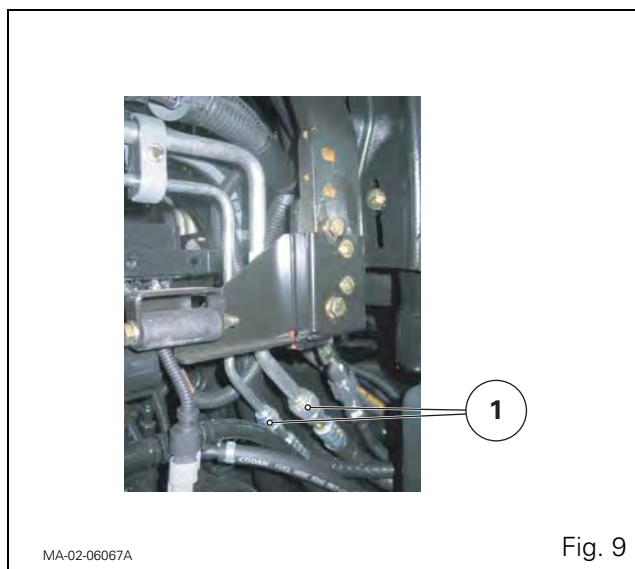

Fig. 9
- Disconnect the hoses (1) located on the front left-hand side of the cab (Fig. 9).